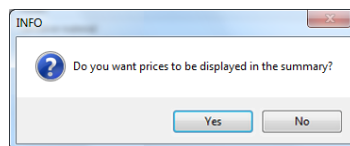

Fig. 72 – choosing to display prices in the exported summary
- **'Export list of additional elements to HTM file'** - allows you to save or print a list of elements in the current project, with or without prices (Fig. 72). Exemplary exported list and its print preview are presented on the following illustrations (Figures 73 and 74).